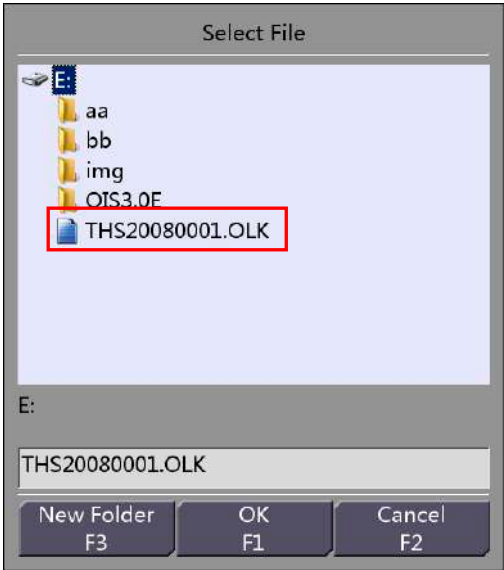

Figure 18-27 Export Interface of Extensions Management
Step 2 Connect a USB storage device to the equipment and click “Export” to display an interface, as shown in Figure 18-27.